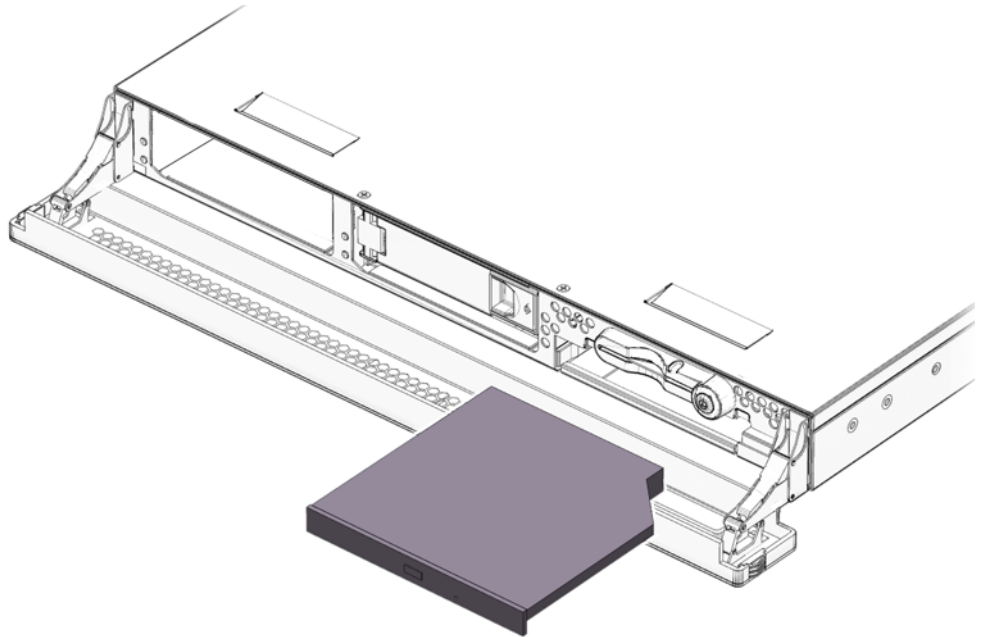

FIGURE 2-4 Removing a DVD Drive
8. Unclip the catches that fasten the DVD drive to the chassis (FIGURE 2-4).